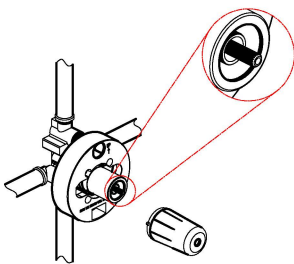

Fig .3
B. Remove the Tub&Shower plastic cap and cut the extension, the length will be 0.6"-0.65" .(see Fig. 3 ).